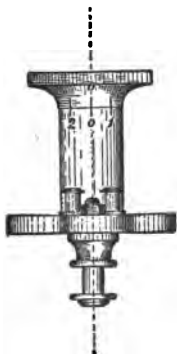
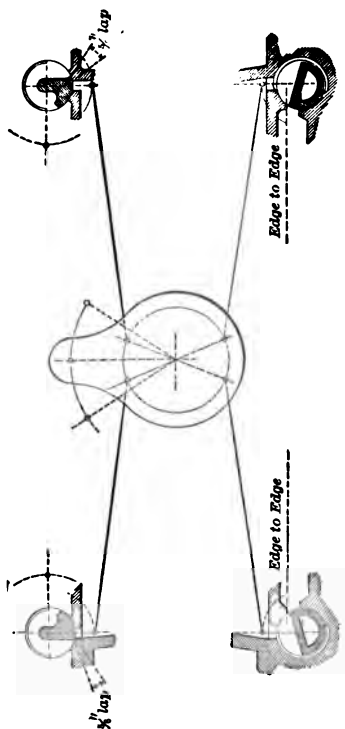

FIG. 107.—WRIST PLATE.
FIG. 110.—VALVE AND WRIST PLATE POSITIONS.
der.) Move the disc plate (see Fig. 107) until line *I* marked on same meets line *O* marked on fixed disc bracket, then adjust the dash pot so that the claw of the valve connecting rod to steam valve engages the blow block free and easy ; repeat this with the other steam valve connecting rod.
and with the hand lever (which insert in disc plate for the purpose) move the valve gear to one end of its travel, as indicated by lines 1 and 2 on disc plate and centre line *O* on fixed disc bracket (see Fig. 107) and adjust the rods so that the steel trip toe on the cut-off cam just touches the claw without unhitching same. Reverse the disc plate, and repeat this on the other end.
A. Place the valve disc on the centre (*O* to *O* fig. 107), remove the back valve chamber
covers where the edges of ports and valves are marked plainly by chiselled lines, and set the valves according to fig. 110. Adjust the length of eccentric rod so that the valve disc swings equal both ways from the centre line on hub of disc (see fig. 107). Place the valve disc in the centre (lines O and O, fig. 107) and set the valves as shown above, the admission or steam valves to have 5-16 inch lap, the exhaust valves edge to edge. Set the crank on the dead centre. Turn the eccentric ahead of the crank pin in the direction the engine is to run until the valve shows 1-16 inch opening, then secure the eccentric. Turn the crank in the same direction around to the other dead centre. If any difference of opening is detected, it can be adjusted by the nuts on the eccentric rod, moving the rod in or out as the case may require.